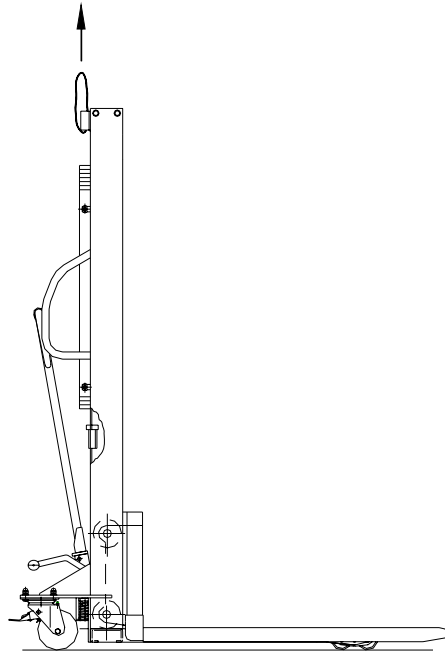

Figure 2 Hoisting diagram of Truck
6. Correct slinging position is indicated in figure 2.